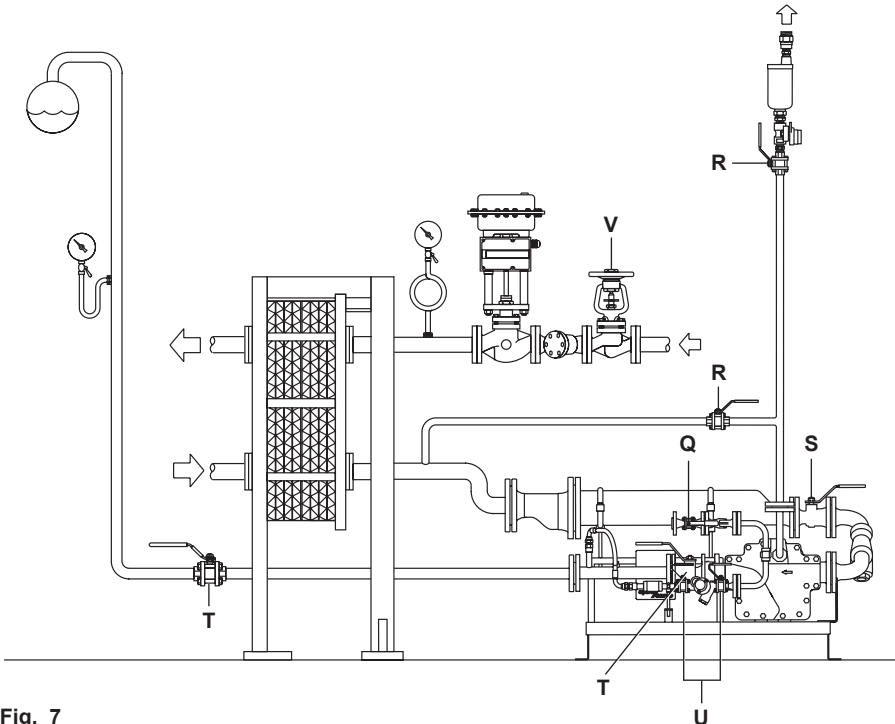

Fig. 7
- 4.1 After ensuring the inlet, exhaust, discharge, motive supply and exhaust lines are coupled in accordance with Figure 7, slowly open the motive supply inlet valve (Q) to supply pressure to the APT10 - PPU, APT14 - PPU and APT14 - PPU. Ensure that the exhaust/balance line is open (R) and not restricted in any way.